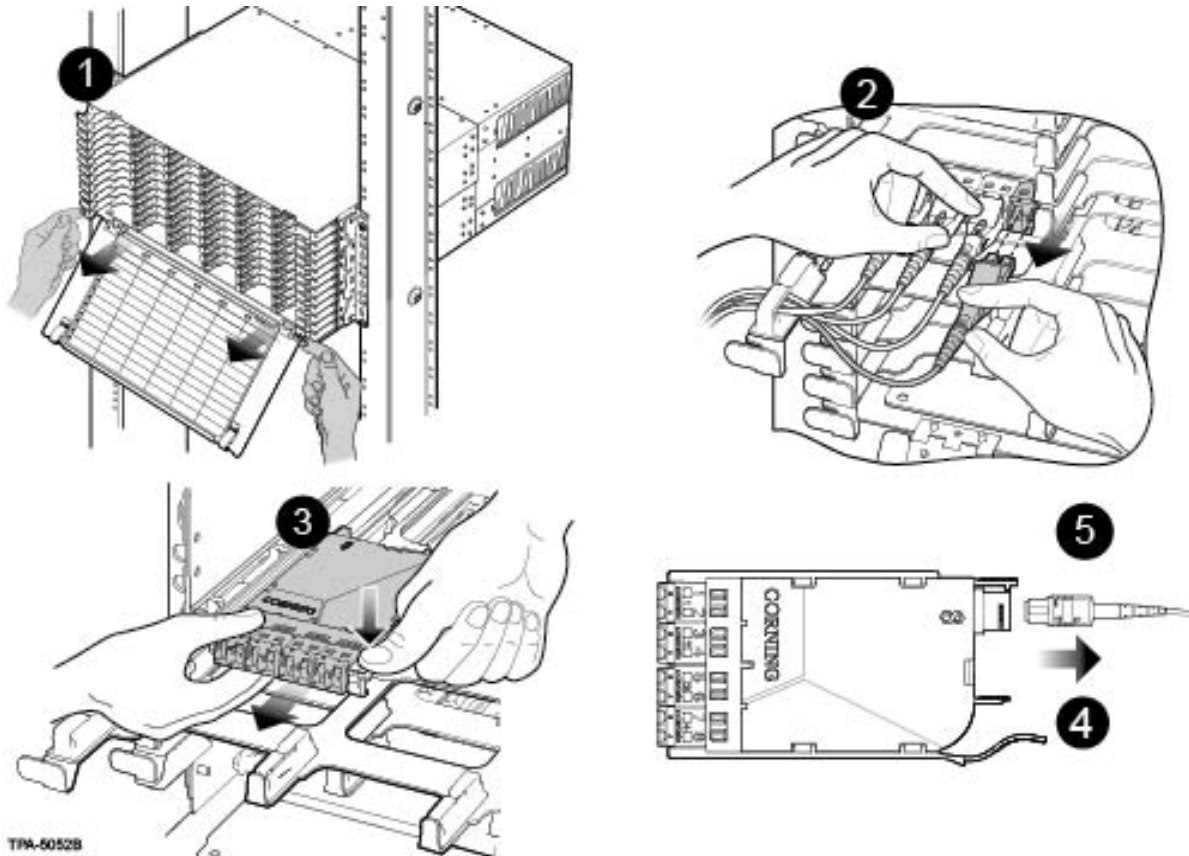

Figure 34 — Replace EDGE8® Module
**Step 2:** Press latch on LC connector and pull connector out (Figure 34). If jumper is equipped with MTP® connector, simply grasp connector body and pull connector out of the adapter. (**NOTE:** only LC connectors shown in Figure 34.)